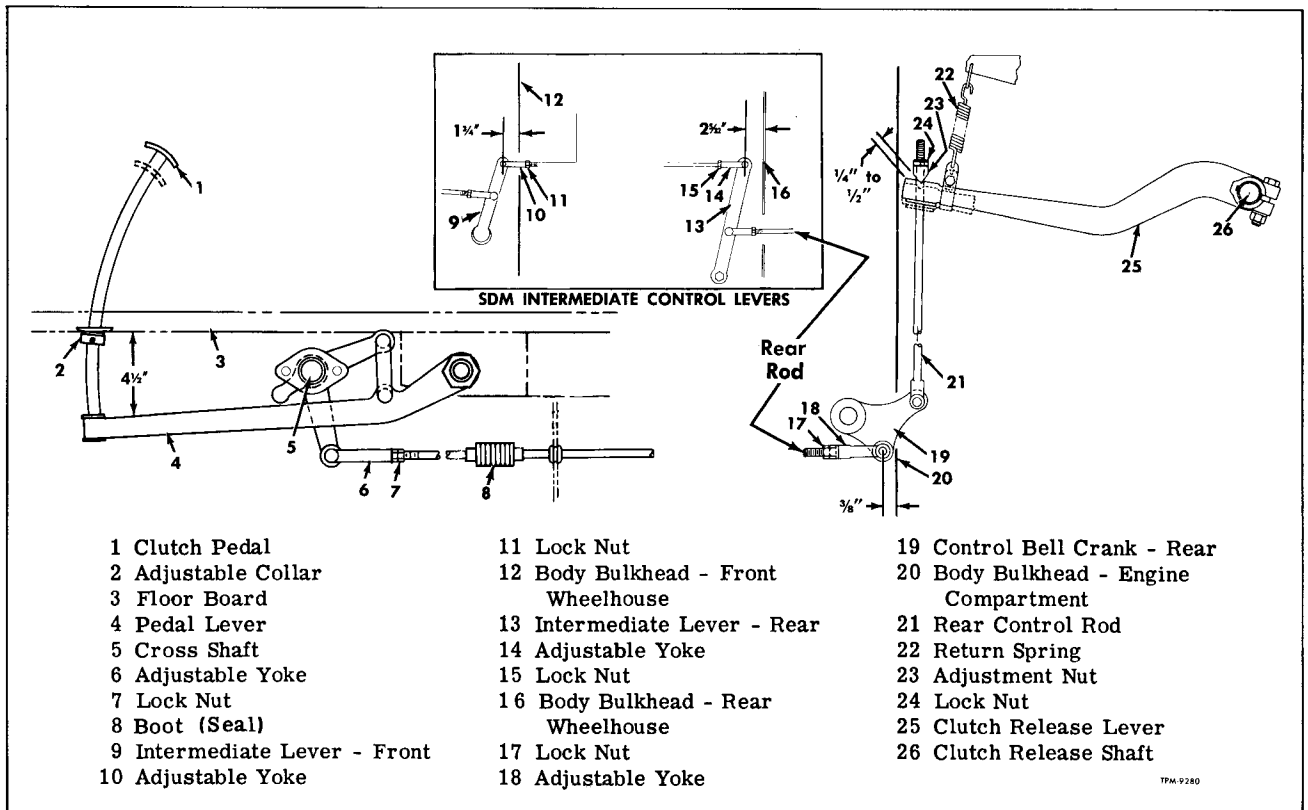

Figure 6—Clutch Control Linkage
Clutch is manually controlled by clutch pedal which is connected to clutch release lever in engine compartment by the levers and rods shown in figure 6. Rods are inclosed in waterproof loom where exposed to road splash. Bellows-type seals are used at ends of loom to exclude dirt and moisture.
Key numbers in text refer to figure 6.
1. Check distance from pedal lever (4) to underside of floor. Distance should be 4-1/2 inches at point indicated in figure 6.
2. If necessary to change position of pedal lever in relation to floor, first check return spring (22) which must be in good condition and check to see that adjustable collar (2) is held firmly against floor. Loosen set screw in collar (2) and move collar as required to provide the 4-1/2-inch dimension from pedal lever to floor. Tighten set screw.
When clutch control rods or other linkage on SDM coaches is replaced or if difficulty is experienced in clutch linkage operation, perform check and make adjustment if necessary, at the intermediate control levers as directed below. Inset in figure 6 shows lever arrangement.
4. If the procedure described in step 3 above indicates need for adjustment, turn clevis (14, fig. 6) to set lever in proper position.
For proper leverage and satisfactory clutch linkage operation, the distance from clevis pin in lever (19, fig. 6) to bulkhead is 3/8 inch as shown.
1. With clutch pedal up (collar contacting floor), measure distance from center of clevis pin at bell crank (19, fig. 6) to bulkhead.
2. If necessary loosen lock nut, remove clevis pin, and turn adjustable yoke (18) to provide the 3/8 inch dimension shown in figure 6.